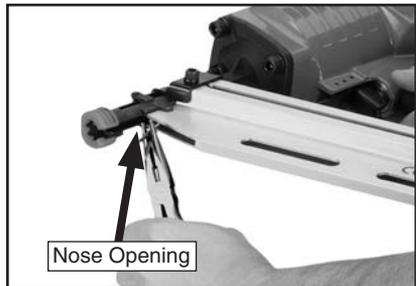

Figure 7. Nose opening for clearing jams.
4. Locate the opening in the underside of the nailer nose (**Figure 7**).